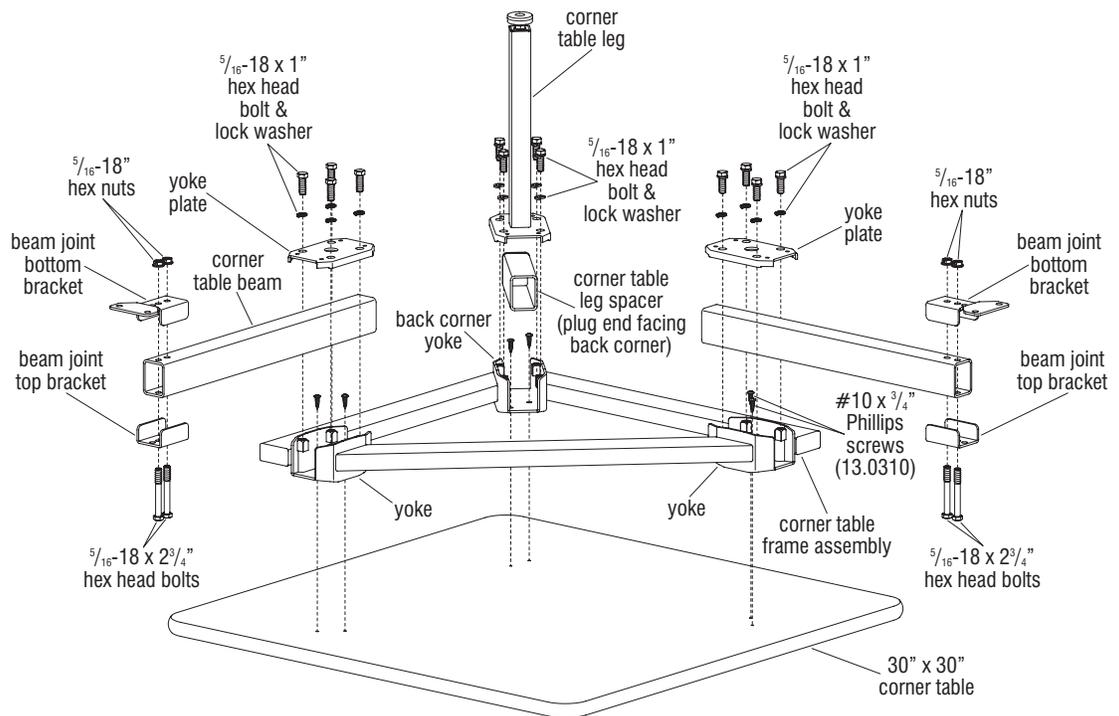

Figure 2
6. Carefully unpack all corner table parts, set them out and identify all components required for corner table assembly (Figure 2).
8. Take a corner table leg spacer in hand, orient it so the plugged end faces the back corner of the table frame, then set the table leg spacer into the back-corner yoke of the frame. Place a corner table leg over the spacer and yoke of the frame then secure with four 5/16"-18 x 1" hex head bolts and lock washers as illustrated. Torque bolts to 21 ft/lbs in a diagonal pattern (Figure 2).
9. Locate a corner table beam and position a beam joint top bracket and beam joint bottom bracket over the two mounting holes at one end as illustrated. Insert two 5/16"-18 x 2 3/4" through and secure using two 5/16"-18 hex nuts (Figure 2 & Detail A).
10. Repeat step 4 above for the second corner table beam (Figure 2 & Detail A).
11. Orient the two assembled corner table beams such that the beam joint bottom bracket is face up (upside-down for installation). Position the two assembled corner table beams into the remaining two yokes of the corner table frame as illustrated. Place a yoke plate onto each beam and yoke of the corner table frame, then insert and loosely tighten four 5/16"-18 x 1" hex head bolts and lock washers. Tightening is not required at this time because adjustment is required later (Figure 2).